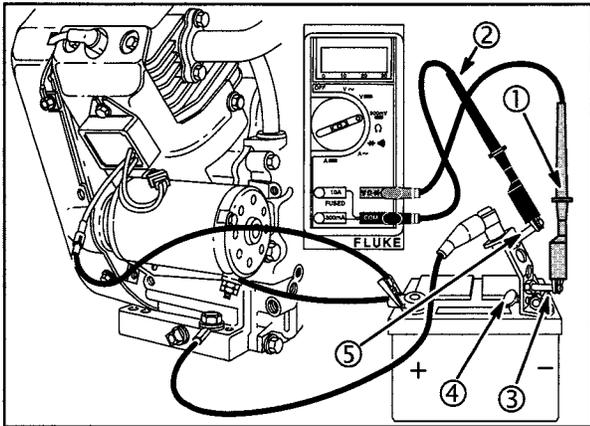

Fig. 28
The DC shunt **MUST** be installed to the **NEGATIVE (-)** terminal of the battery, Fig. 28. All connections must be clean and tight to obtain accurate readings.
3. Insert RED test lead (1) into $V\Omega$ receptacle in meter. Connect to RED post terminal (3) on shunt, Fig. 28.
4. Insert BLACK test lead (2) into **COM** receptacle in meter and connect to BLACK post terminal (5) on shunt.